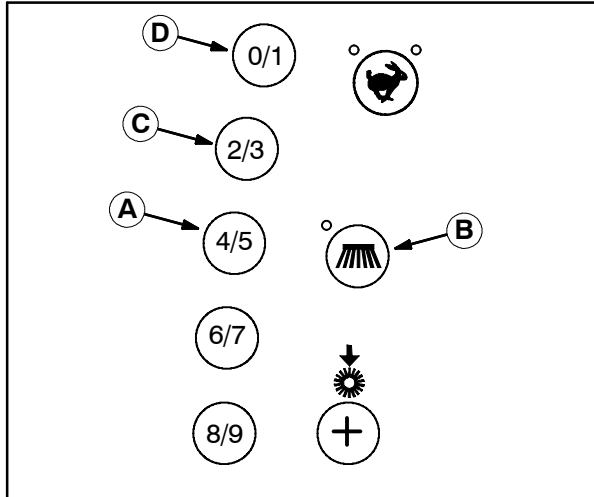

FIG. 1
- To enter configuration mode: Simultaneously press and hold the 4/5 button (A) and Side Brush button (B) and turn the ignition switch to the on position (without starting machine). Refer to Fig. 1.
- To select configuration: Use the 2/3 button (C) to scroll to the proper mode (**ES**, **FaST**, or **No ES**, **No FaST** option from the menu) and use the 0/1 (D) button to select the applicable mode. Refer to Fig. 1.
- If machine is equipped with the **Side Brush Sweep Only** option reenter the configuration mode and select **Side Brush Sweep Only** from the configuration menu. Refer to Fig. 1.